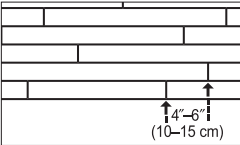

Figure 3 Preferred Alignment
- Be attentive to staggering the ends of boards at least 4"-6" (10-15 cm), when possible, in adjacent rows (Figure 3). This will help ensure a more favorable overall appearance of the floor.